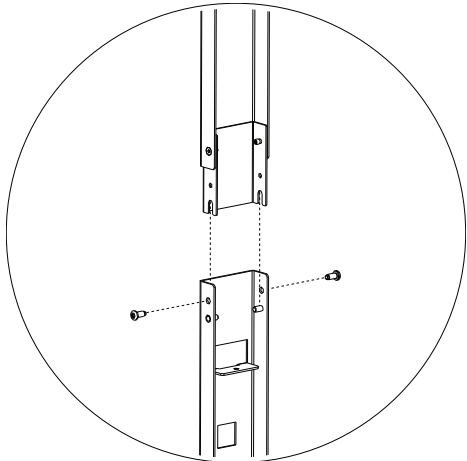

Fig. 2
1. Assemble End Panel Channel by sliding the top channel into the bottom channel and securing with (2) M6 screws. See Fig. 2.